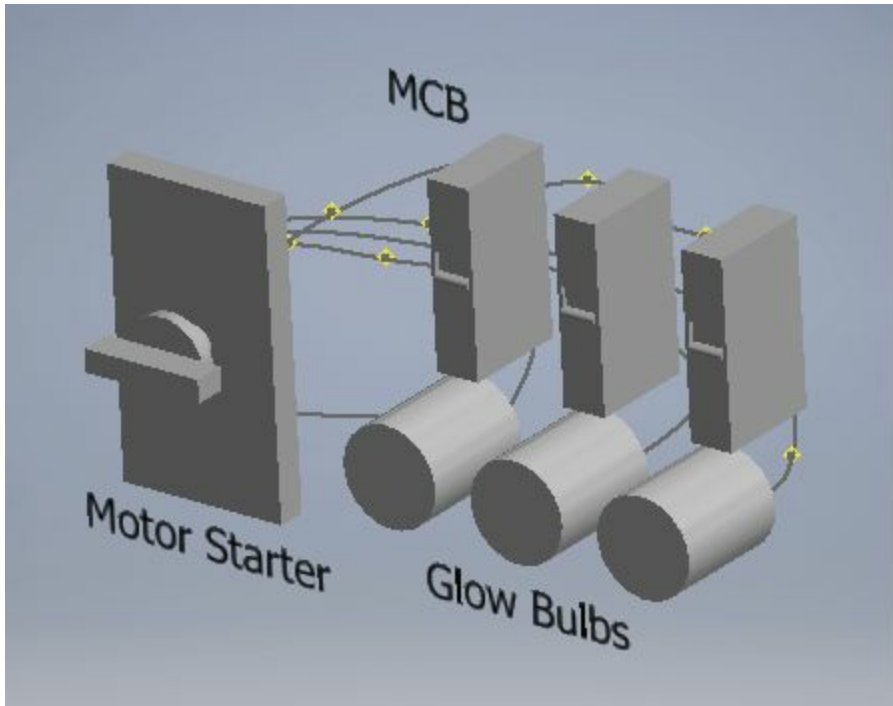

Figure-9. 3D Model of Electrical assembly
- Open the assembly file of Electrical model in Autodesk Inventor; refer to Figure-9.